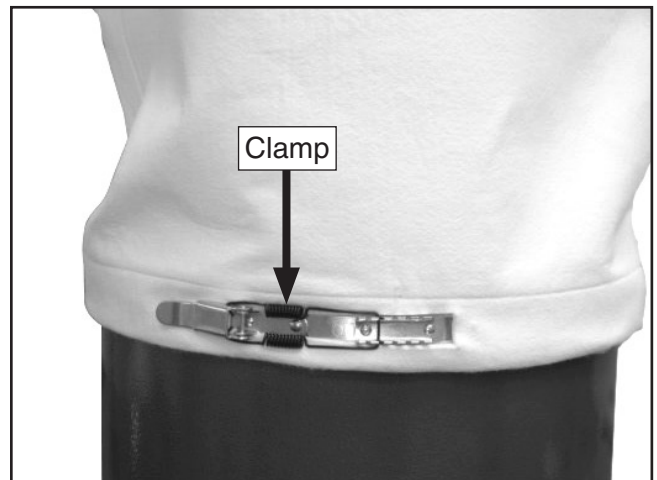

Figure 12. Upper collection bag secured.
- Tighten the upper bag to the collector using the clamp shown in **Figure 12**.